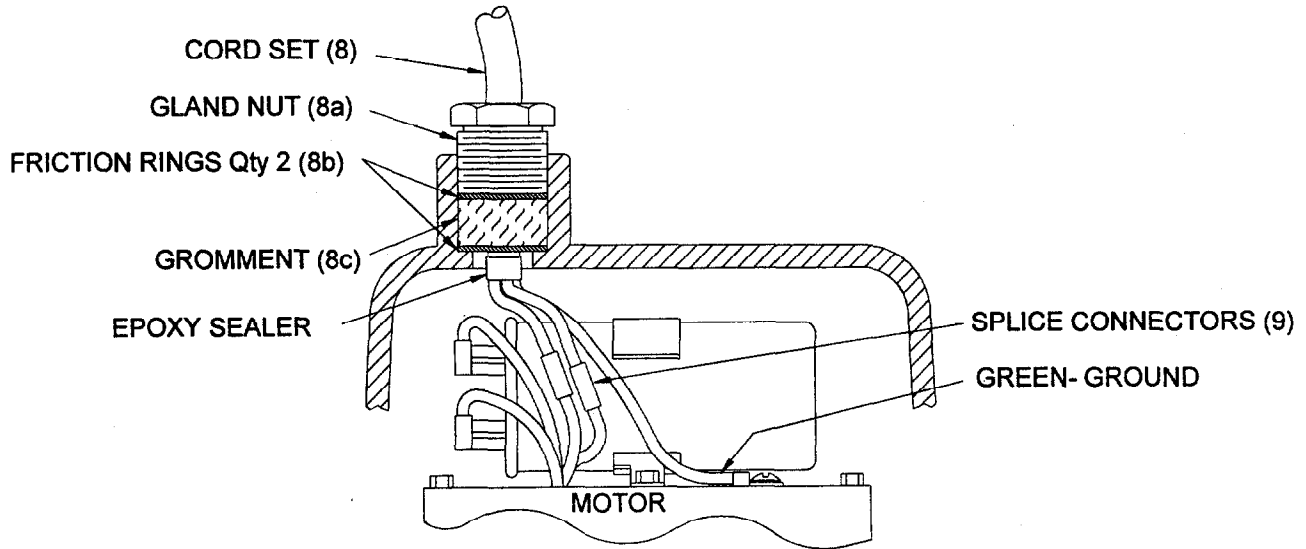

Fig. 5
Motor - To examine or replace the motor (1) or bearings (4), remove body and impeller as per section F-2.1. Drain oil from motor housing as per section F-1.2. Remove socket head screws (13). Loosen gland nut (8a) (see Fig. 5), and push cord through while lifting motor housing (12) off of seal plate (2). Disconnect motor wires from cord set (8).
Pull cord (8) through motor housing and inspect grommet (8c) (Fig. 5) for deterioration. Remove square ring (11) and inspect for breaks. Loosen motor screws and pull motor (1) straight up and off seal plate (2). Inspect all parts for signs of wear.
Make sure shaft seal (3) is clean and in proper position as per section F-4.2 before reassembling rotor and bearing. Slide lower bearing and rotor shaft squarely into the seal plate (2) until bearing seats on the bottom. Insert snap ring (5) into seal plate with flat edge against outer race of bearing. Place motor stator squarely onto seal plate and tighten motor screws. Install square ring squarely (11) onto seal plate. With cord assembly (8) properly assembled, slip cord through motor housing (see Fig. 5). Connect motor wires to cord set as per figure 5 & 6. Place motor housing squarely onto seal plate while pulling excess cord through hole. Tighten socket head screws (13) into motor housing. Tighten gland nut (8a) against washers (8b) and grommet (8c). Refill with cooling oil as per paragraph F-1.3.